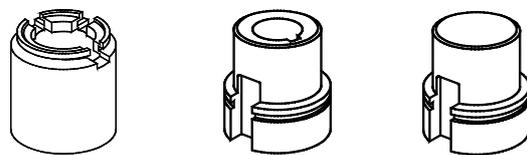

Fig. 1-2
2.1.2 Non-Thrust Base Type (Refer to Fig. 1-2).